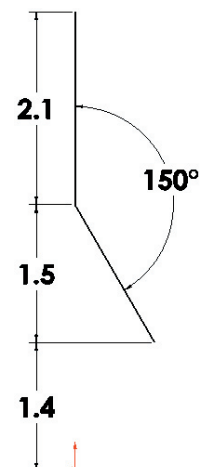

Fig. 4
Step 7. Dimension the angle between the top line and angle line **150 degrees** as shown in **Fig. 4**. To Smart dimension the angle click both lines then move the cursor out away from the lines and click. Key-in **150** for the dimension and press ENTER.